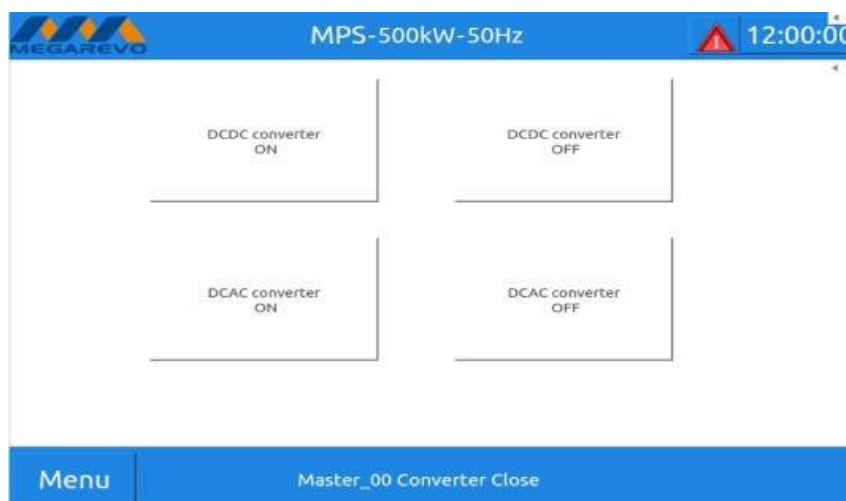

Figure 7-4 Startup and shutdown main interface
(7) The converter is turned on. Click "Menu" → "Switch" → "DCAC Inverter On" in the lower left corner of the monitor (as shown in Figure 7-4). The inverter is soft-started. After the soft-start is completed, the AC contactor pull-in sound will be heard. At this time, the status of the converter displayed in the lower corner of the monitoring main interface will change to "converter off-grid discharge" or "converter off-grid discharge". The inverter is connected to the grid for charging" or "The inverter is connected to the grid to discharge". At this time, the inverter is running normally.
(1) Shutdown of the photovoltaic controller. Click "Menu" → "Switch" → "DCDC Converter Off" in the lower left corner of the monitor, click "DCDC" Converter Off", and the PV controller status displayed in the lower right corner of the monitoring main interface will have "Converter xMPPT" " becomes "standby". At this time, the PV controller stops working. (As shown in Figure 7-4 above)
(2) The converter is turned off. Click "Menu" → "Switch" → "DCAC Converter Off" in the lower left corner of the monitor. After clicking "DCAC Converter Off", you will hear the AC contactor disconnecting sound. At this time, the change displayed in the lower corner of the monitoring main interface The converter status will change to "Converter closed". At this point the converter stops working.